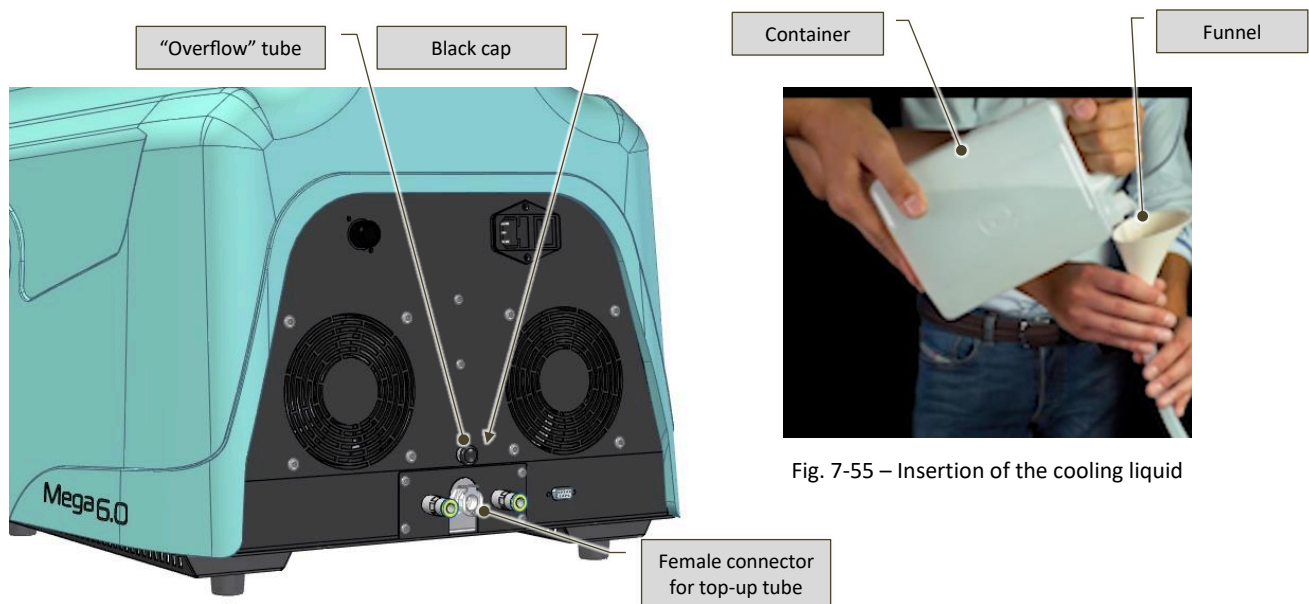

Fig. 7-54 – Cooling liquid top-up – rear view of the machine
- Connect the supplied cooling liquid top-up tube to the female connector (Fig. 7-54) on the rear of the machine;
- Manually remove the black cap (Fig. 7-54) from the “overflow” tube located on the upper rear of the machine;
WARNING!: Hold the overflow tube firmly (Fig. 7-54) when removing its black cap, to ensure it does not become dislodged.